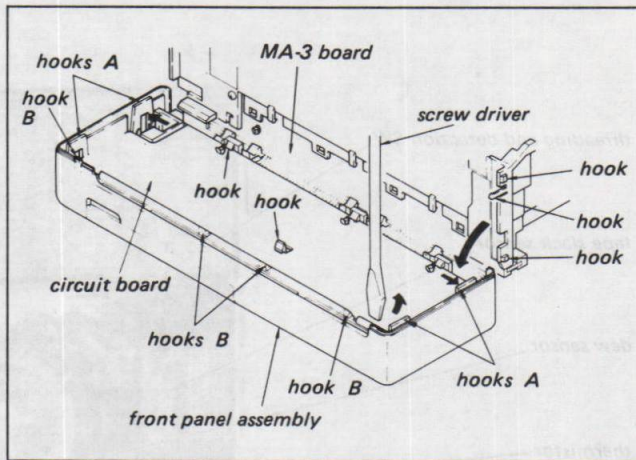

Fig. 2. Front panel removal
Extract the tracking knob, disengage the right and left hooks (A), and, while holding hooks (B) down with a screwdriver inserted between the circuit board and the front panel, remove the front panel. (Refer to Fig. 2)